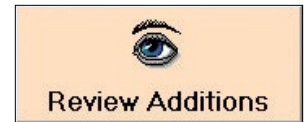

Figure 11. The Review Additions button located on the Non-Lifted Items screen.
4. Click the Review Additions button (see Figure 11).